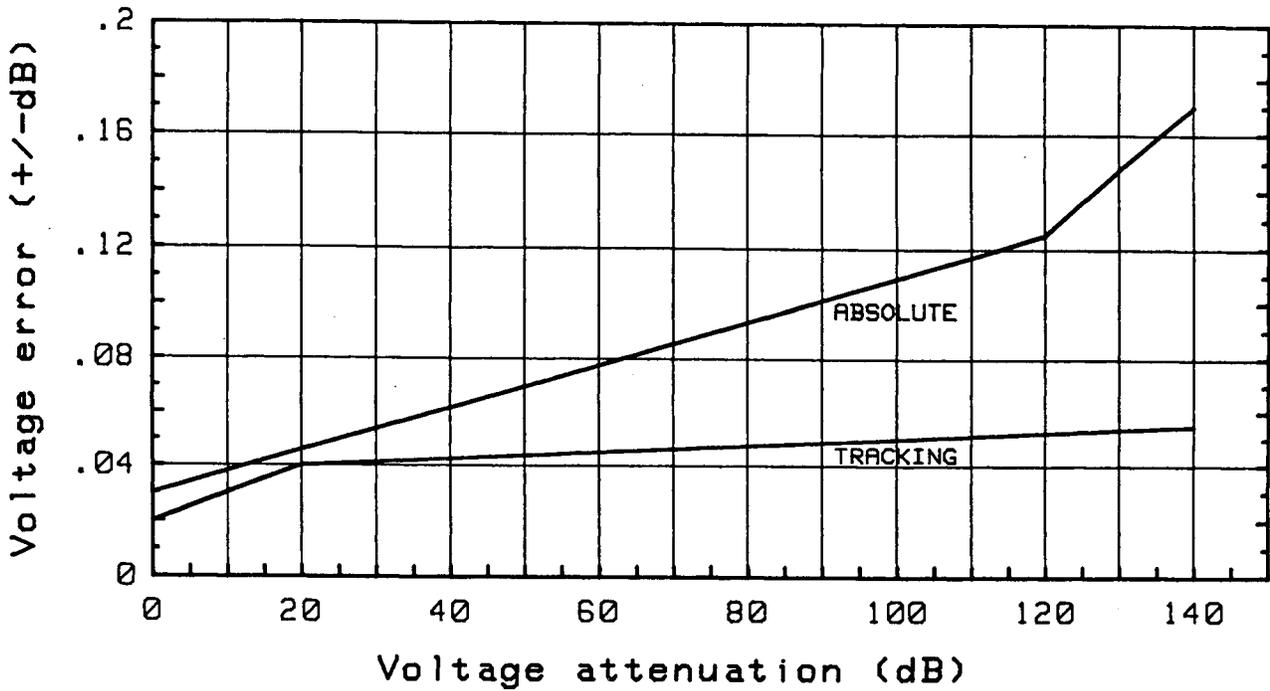
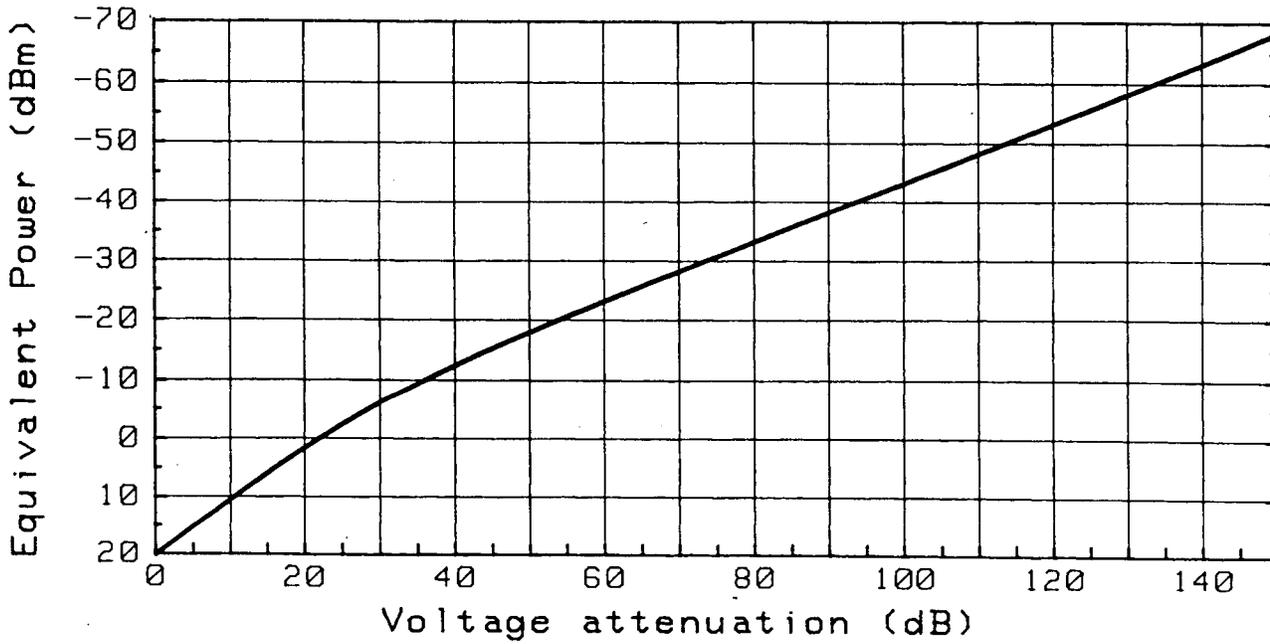

Figure 1-2. HP11613B Attenuation Accuracy
Figure 1-3. Voltage Attenuation vs. Equivalent Detector Input Power
- The National Bureau of Standards (NBS) traceable HP 11613B specifications are shown in *Figure 1-2* of this manual.
Figure 1-2 shows the NBS traceable absolute voltage attenuation error and the HP traceable tracking limit of the HP 11613B. The NBS traceable voltage attenuation error is greater than the HP traceable tracking limit because the NBS traceable attenuation error calculation includes cumulative measurement uncertainties. These uncertainties reflect the rigorous procedures required to establish NBS traceability of the calibrator, given its accuracy and dynamic range. Passing the "Operator's Check" as described in Section 6 of this manual will verify, within the limits of the test equipment used, that the HP 11613B meets its NBS traceable specification.
The HP 11613B calibrator is traceable to NBS standards through an HP 11613 transfer standard. The HP 11613 transfer standard is an HP 11613 calibrator that has been characterized with specialized NBS traceable test equipment in the HP Calibration Laboratory. Figure 1-2 shows the NBS traceable absolute voltage attenuation error. Figure 1-3 relates voltage attenuation (dB) to power level (dBm). For example, 80 dB of calibrator attenuation relates to a detector input power level of approximately  $-34$  dBm.